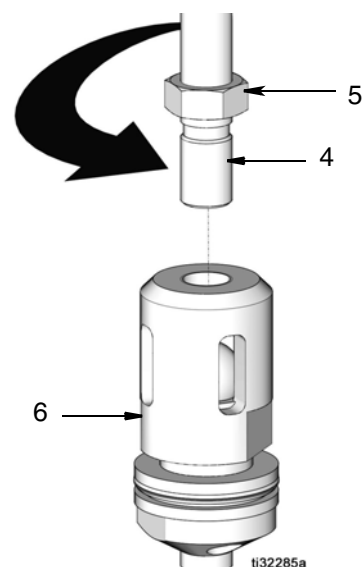

FIG. 7
- Loosen nut (5) and unscrew the valve housing (6) from connecting rod (4) (FIG. 7).